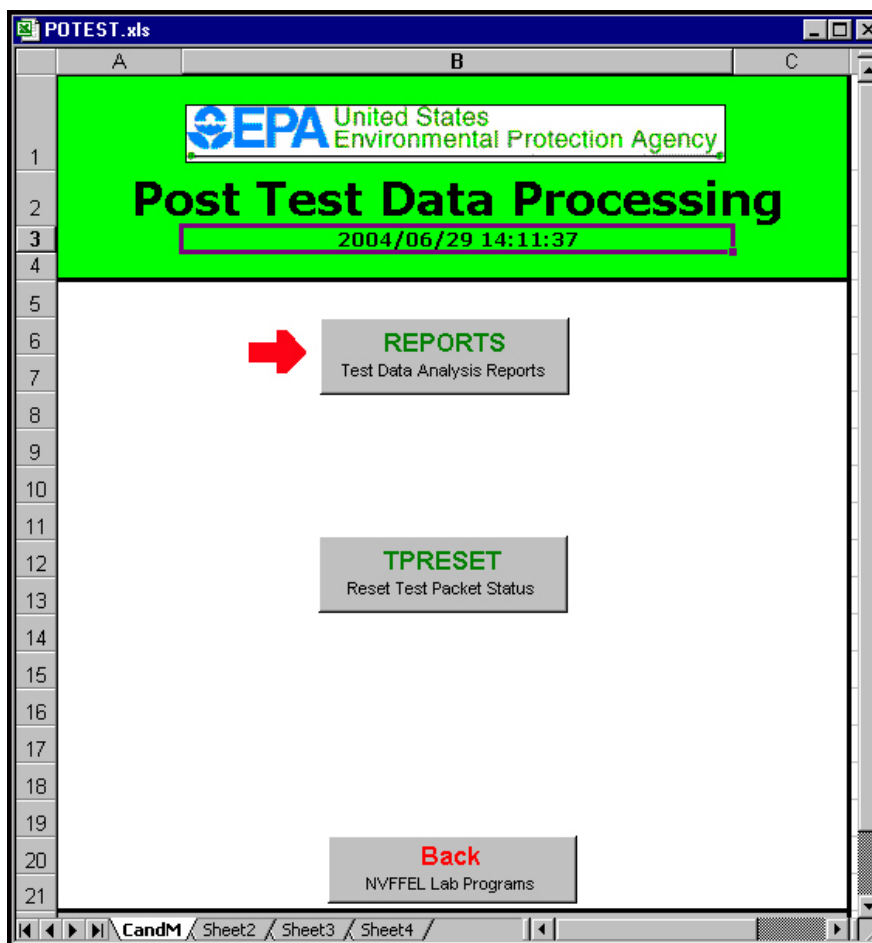

Figure 50
- 619 The "Post Test Data Processing" screen will appear. Click on the "REPORTS Test Data Analysis Reports" button. See the arrow in Figure 50.